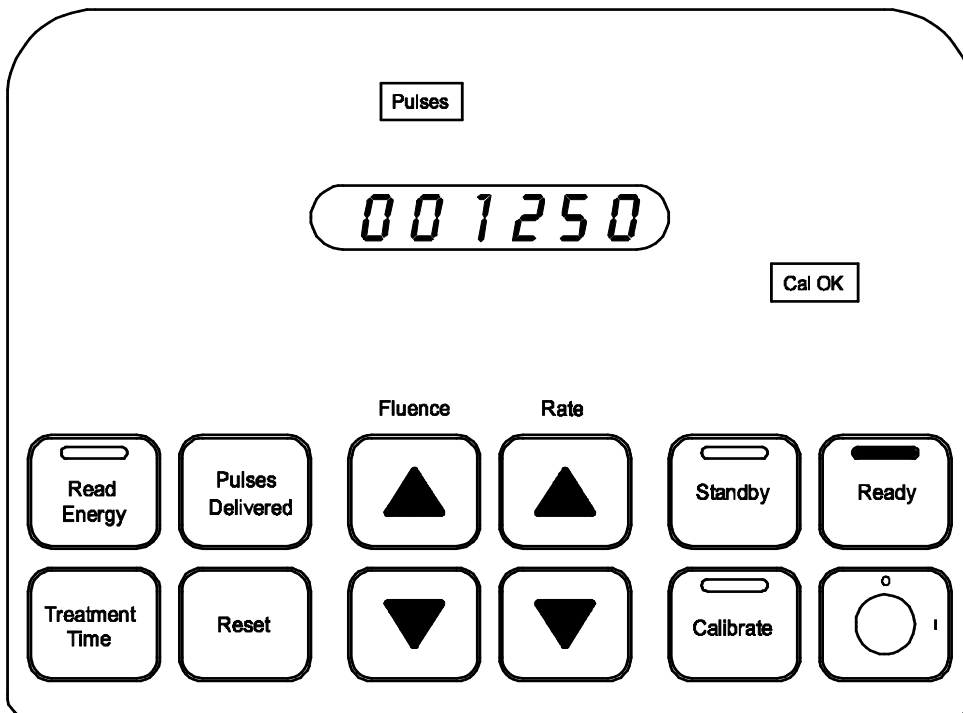

Figure 17
9. While the Excimer Laser System is lasing, the number of pulses delivered during a procedure is accumulated. To retrieve the total number of pulses delivered, stop lasing and depress the **Pulses Delivered** button. The count is visible in the display window. (Figure 17)